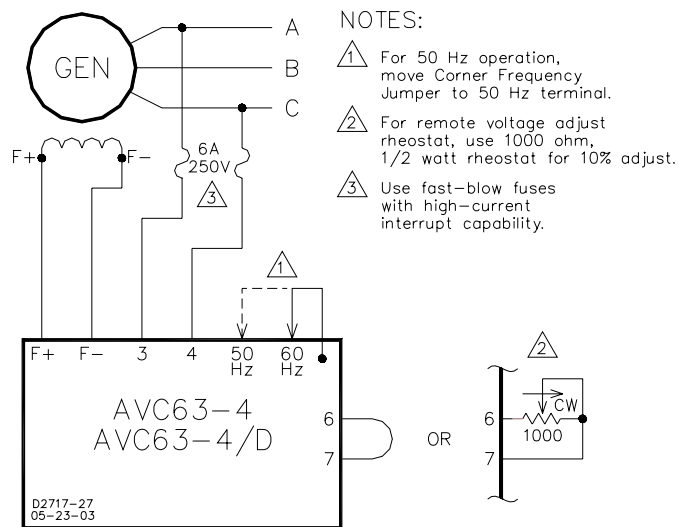

Figure 8. Typical Interconnection, 208/240 V Nominal
If remote adjustment of the generator output is desired, the Voltage Adjust Rheostat jumper must be replaced with a user-supplied rheostat. A 1000 ohm, $\frac{1}{2}$ -watt rheostat will provide adequate voltage adjustment range for most applications. Figure 8 shows the proper remote rheostat connections.
Power for the exciter field and analog voltage controller is derived from the generator output. The acceptable power input range is 171 to 264 Vac and is connected to terminals 3 and 4. Connect wiring as shown in the interconnection diagram of Figure 8.
Figure 8 shows a typical interconnection diagram for the AVC63-4 and AVC63-4D controllers.
4. Install the fuses as shown in Figure 8.